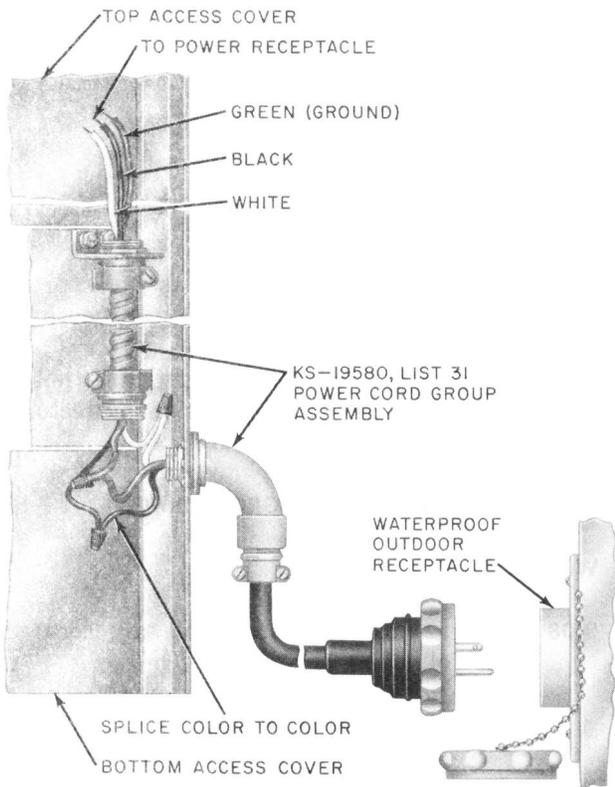

Fig. 15—KS-19580, List 31 Power Cord Group Assembly for Ground Level Entrance
- 3.09** Refer to 2.11 for available cords and Fig. 15 and 16 for their usage.